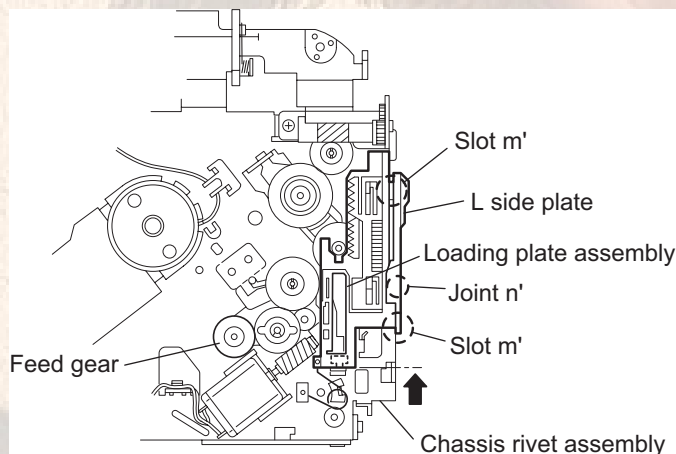
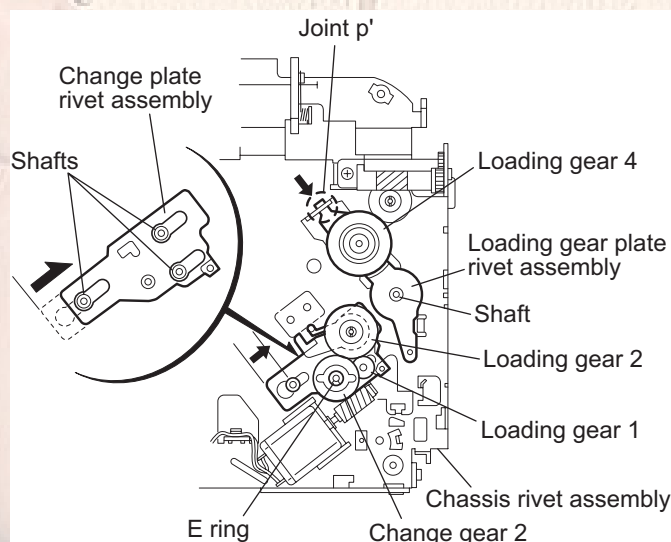

Fig.37
Fig.38
- (1) Remove the screw **K** attaching the loading gear bracket. The loading gear 6 and 7 come off the loading gear bracket.
- (2) Pull out the loading gear 5.
3.2.17 Removing the gears (See Figs.37 to 40)
- (1) Pull out the feed gear.
- (2) Move the loading plate assembly in the direction of the arrow to release the L side plate from the two slots m' of the chassis rivet assembly. (See Fig.37.)
- (3) Detach the loading plate assembly upward from the chassis rivet assembly while releasing the joint n'. Remove the slide hook and loading plate spring from the loading plate assembly.
- (4) Pull out the loading gear 2 and remove the change lock lever.
- (5) Remove the E ring and washer attaching the change gear 2.
- (6) The change gear 2, change gear spring and adjusting washer come off.
- (7) Remove the loading gear 1.
- (8) Move the change plate rivet assembly in the direction of the arrow to release from the three shafts of the chassis rivet assembly upward. (See Fig.38.)
- (9) Detach the loading gear plate rivet assembly from the shaft of the chassis rivet assembly upward while releasing the joint p'. (See Figs.38 and 40.)
- (10) Pull out the loading gear 4.